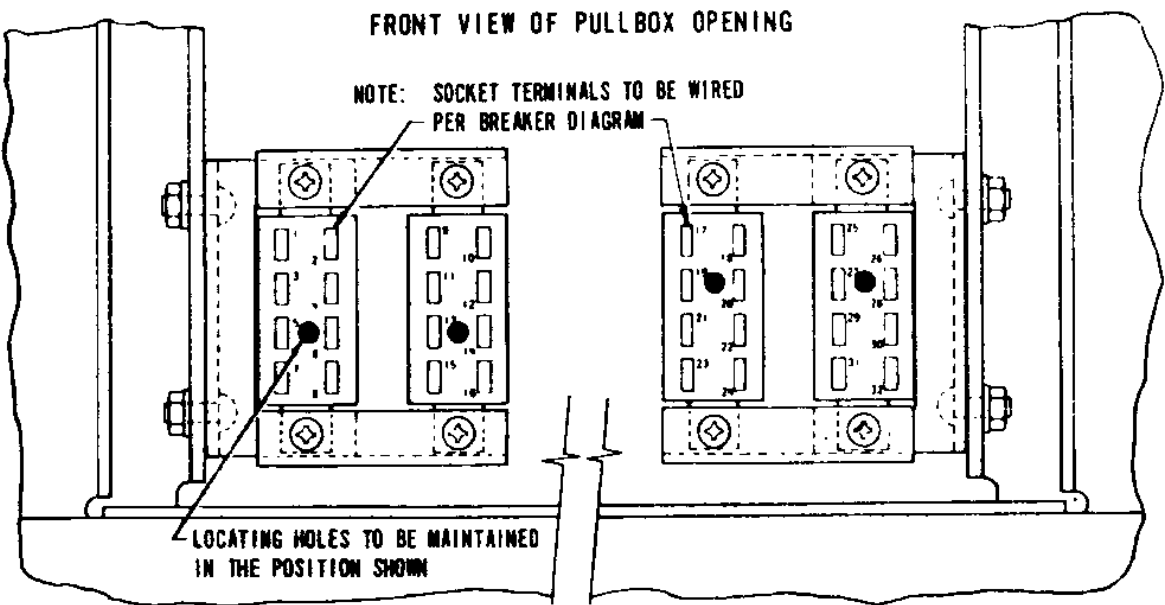

Fig. 2—Mounting Arrangement and Numbering Sequence of Disconnect Sockets in a Urelite Pullbox
- 3. Pull the control wiring into place. Make the connections to the female disconnect plug as shown on the wiring diagram furnished for your particular installation. Also see Fig. 2.